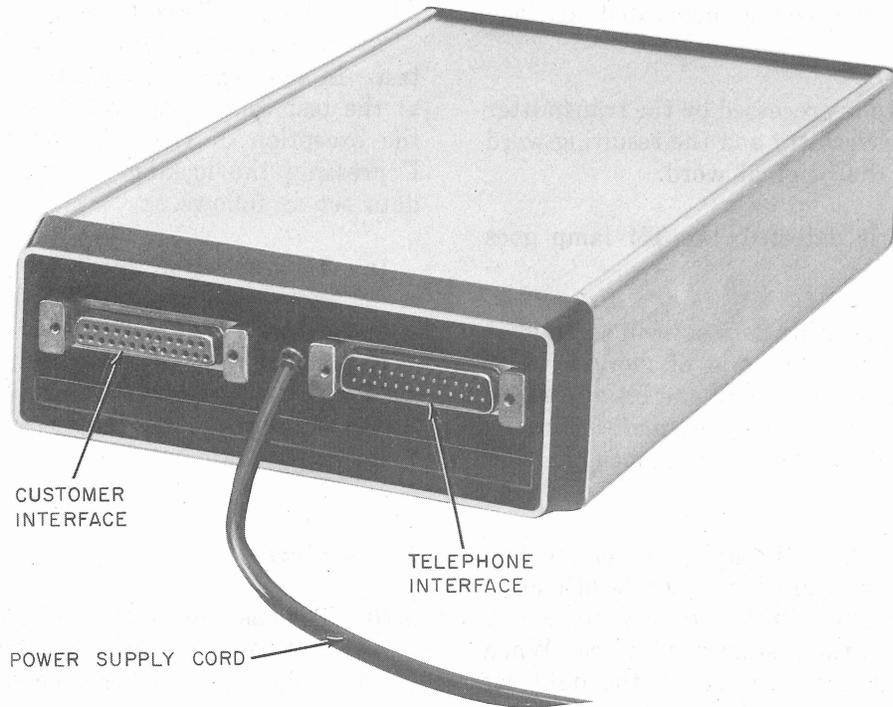

Fig. 3—Data Set 202T, Rear View
**2.07** The housing has two interface connectors and a power cord at the rear of the set (Fig. 3). One connector is a KS-19087-L6 type and provides the digital interface leads to the customer-provided terminal equipment. The other connector is a KS-19088-L22 type and provides the interface connections for the telephone network. The power cord is a 4-conductor, spade-ended type.